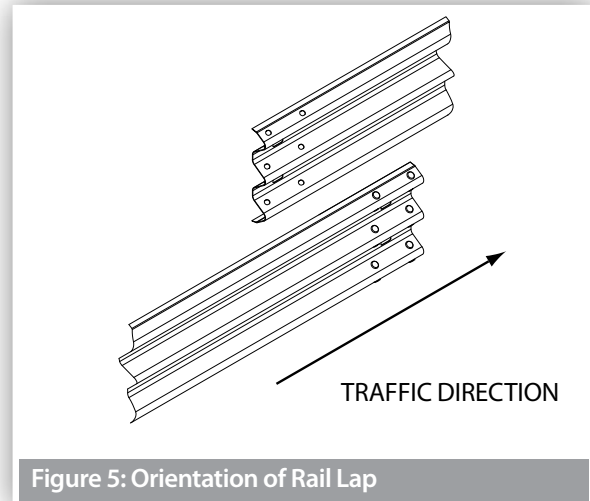

Figure 5: Orientation of Rail Lap
10. The first rail is connected to the concrete via the thrie-beam structural connector. The lapping of the splice joint should follow figure 5 and uses twelve M16x32 splice bolts/nuts.